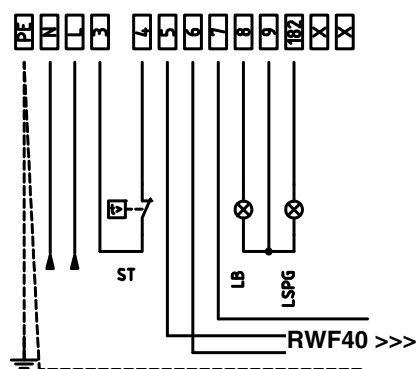

Fig. 26: Fully modulating burners
- 1 Connect the signal conductors from the boiler to the burner, as for the next elements (Fig. 24 - Fig. 26):
- 2 Connect the signal conductors from the burner to the boiler, as for the next elements (Fig. 24 - Fig. 26)